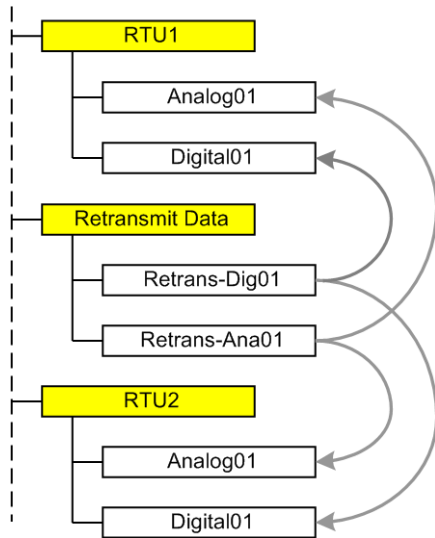

Figure 3-6.15: System Links for Retransmitted Data Points
3. Establish for every data point for being retransmitted, two system links: one for source data point and one for target data point, see Figure 3-6.15